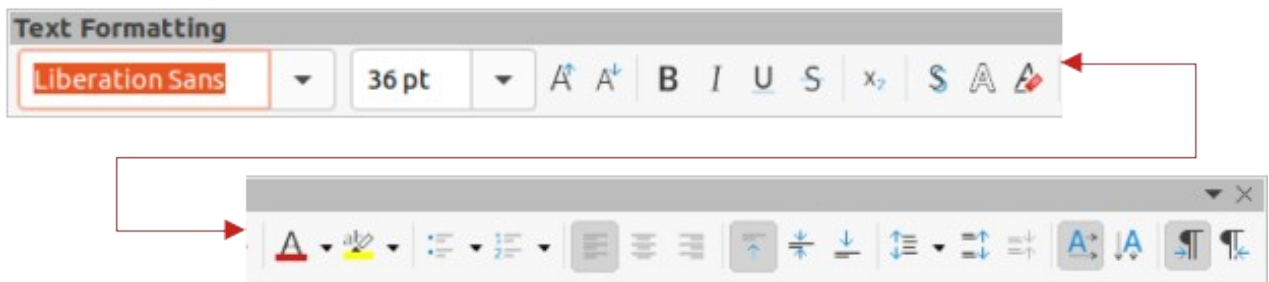

Figure 6: Text Formatting toolbar
- 2) Enter text mode using one of the following methods. A flashing text cursor appears close to the connector and the Text Formatting toolbar (Figure 6) opens.